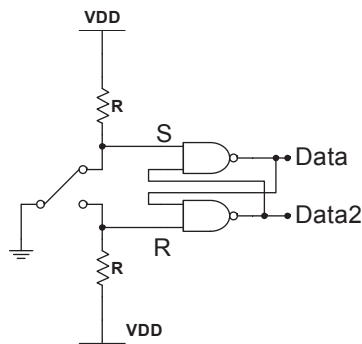
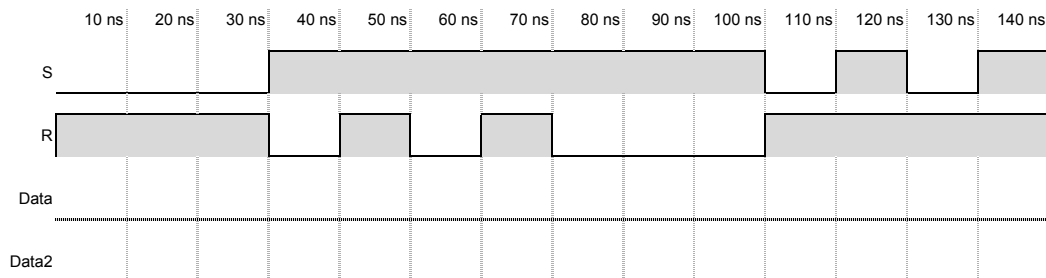

Figure 1: NAND Debounced Single-Pole Double-Throw (SPDT) Switch Circuit
Figure 2: SR Latch Sample Input for Prelab
- 1.1. The waveform shown in Figure 2 shows the values on S and R when the switch from Figure 1 is moved from the UP position to the Down position, then moved back to the UP position. Complete the timing diagram to show the expected values of Data (Top **NAND** gate; takes S as an input) and Data2 (Bottom **NAND** gate; takes R as an input) outputs.
- 2.2.1. Build the circuit shown in Figure 1. Use  $10k\Omega$  resistors. Use a wire to simulate your switch.
- 2.3.2. Build a debounced switch circuit from Figure 1 using the SPDT Switch.